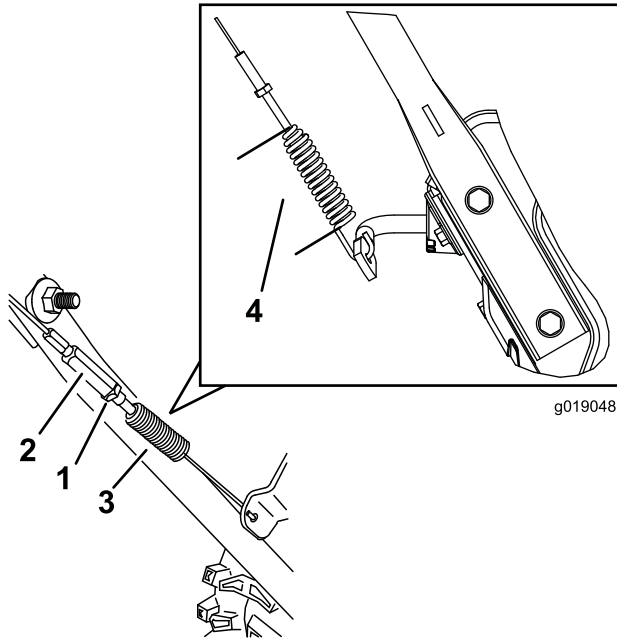

Figure 38
4. Tighten the jam nut (Figure 38), ensuring there is slight tension on the cable.